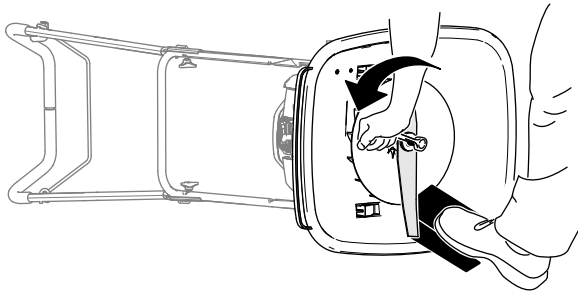

**Figure 29**
5. Use the wrench provided with the machine to remove the blade by rotating the blade bolt counterclockwise (Figure 29).